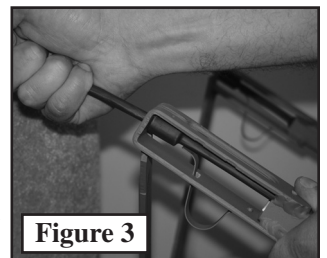

Figure 3
C. Pull the cable towards the back of the tree and "seat" one of the cable stops against the back of the bracket, as shown in **Figure 3**. The QuickDraw cable spring will "lock" into place behind one of the cable stops.